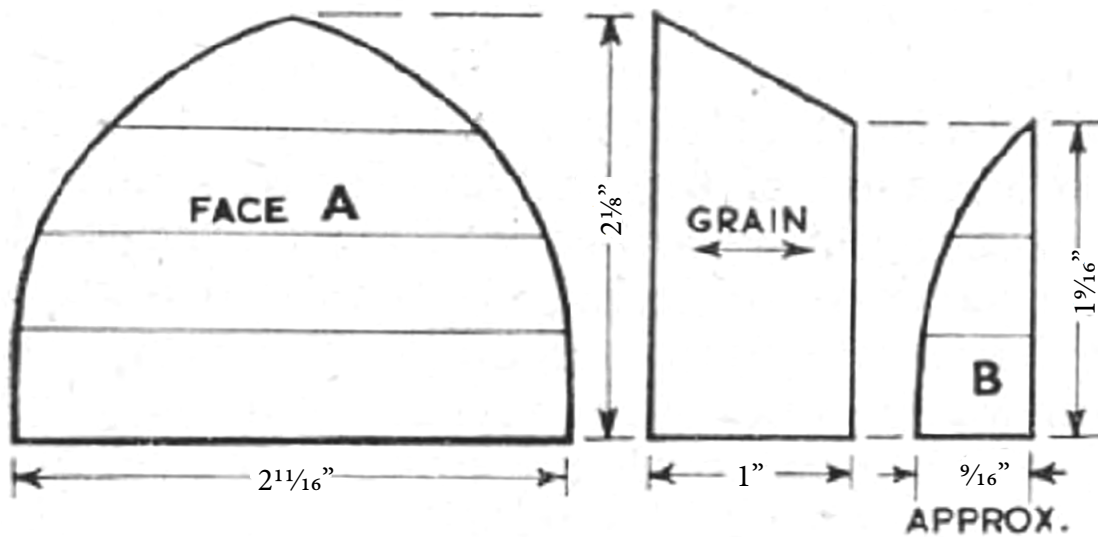

FIG. 2. DETAILS OF SHOULDER BLOCK. This can be either solid or laminated.
The shoulder block may be cut out of a single piece of pine or spruce, or may be built-up as a laminated piece. It should be 1 in. thick and its surface, which is screwed to the dummy, may be shaped by drawing a line  $\frac{5}{32}$  in. outside each edge of the plywood. The narrow end of this block should be shaped as indicated in Fig. 2, face (A), but the final shaping of the remainder left until later. Face (B), Fig. 2, only gives a general idea of the shape and it is as well to leave plenty of waste at this stage. When the block has been secured in place with two screws it should be flush with the end of the dummy, and overlapping each side by  $\frac{5}{32}$  in. Incidentally, a small drill such as an Archimedean drill is invaluable in these screwing operations.